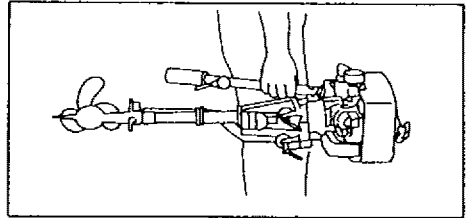

Figure 14A
- d. Steering handle serves as carrying handle as shown in Figure 14A.